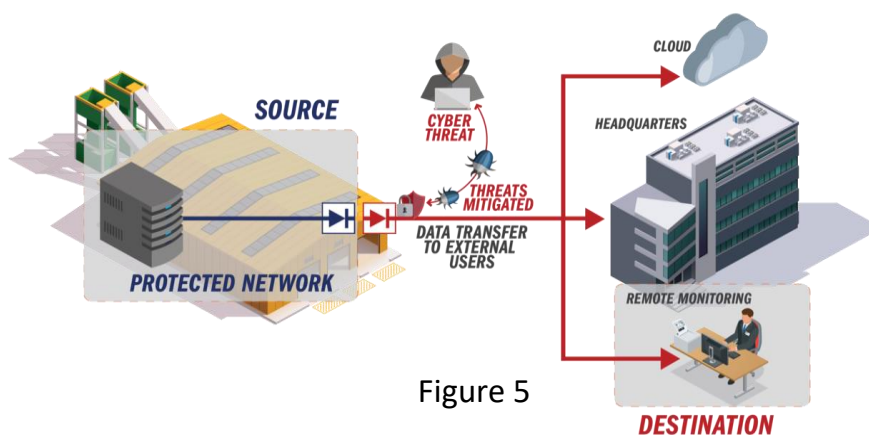

Figure 5
- Convergence sub-layer. Shown in figure 5.
An optical data diode is a computer security device that restricts the wire-line communication along a network connection between two points so that data can only be transmitted in one direction. Since the data diode has a single fiber-optic cable, it is impossible to reverse transmissions due to the basic laws of physics. Shown in figure 5.